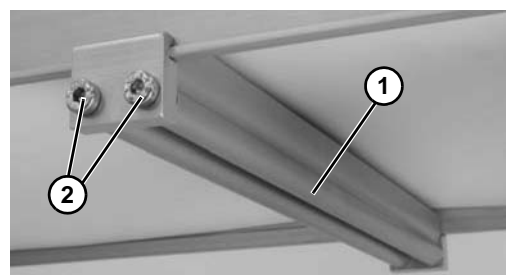

Figure 21
3. Install roller assembly as shown (**Figure 21, item 1**). Tighten screws (**Figure 21, item 2**) to 60 in-lb (7 Nm).